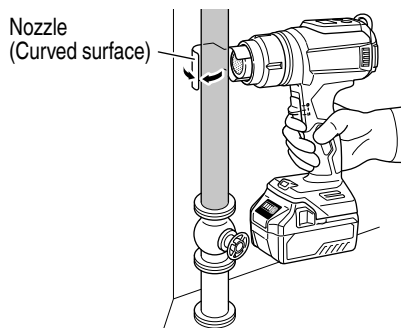

Fig. 19
5. Defrosting water pipes (**Fig. 19**)